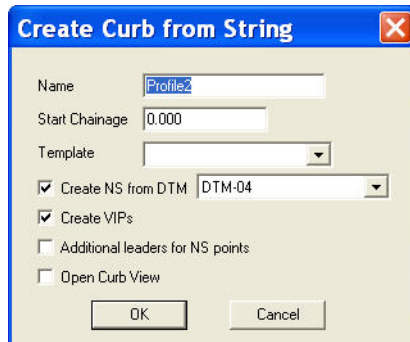

Figure 13-60. Create Curb From String
- Click on the last point on the highlighted string for the end of the curb. The **Define Curb Return** dialog box appears (Figure 13-60 on page 13-49).